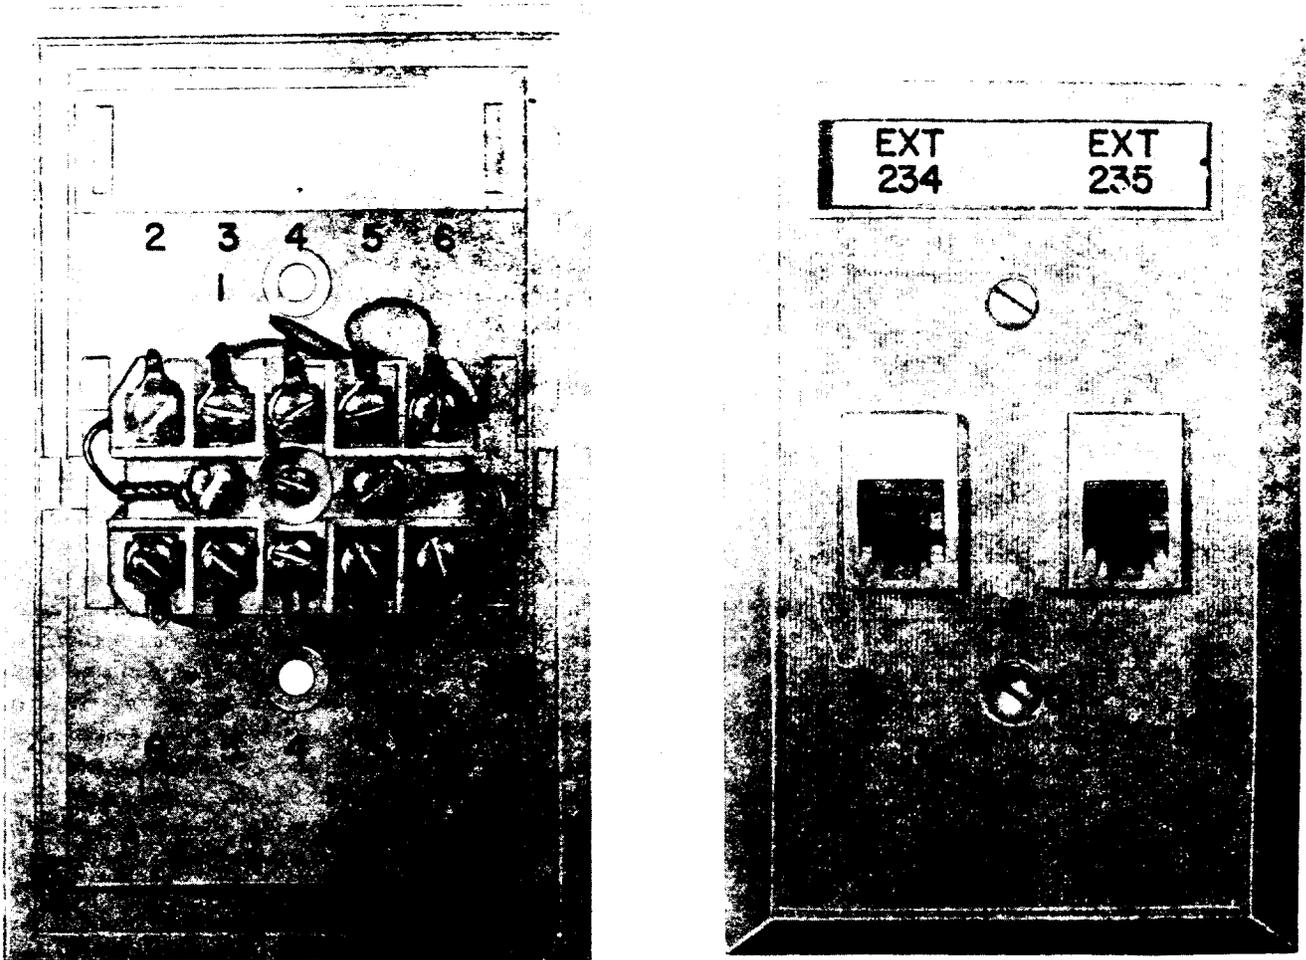

Fig. 6—625D6 Connecting Block (Without Mounting Hardware)
- Block, Connecting, 625D6 (Fig. 6, 7)
#### E. 625D6 Connecting Block (Fig. 6 and 7)
2.07 The 625D6 connecting block (Fig. 6 and 7) consists of two 645A6E jacks molded into a plastic faceplate, terminal block, and mounting bracket. Twelve screws are provided on the rear of the block for connections. It is intended for flush mounting in areas where two separate lines enter through a single outlet and terminate in separate jacks. Intended for use where six conductors are needed in each jack. Each jack provides for terminating a modular mounting cord. It is available in ivory (-50) and brown (-54).
**3.06 625D6 Connecting Block:** Mount the 842615544 bracket (Fig. 6) on a standard electrical outlet box using hardware furnished with bracket. Feed wiring through bracket opening and terminate on terminal strip located on back side of block (Fig. 7). Each jack has six-conductors; the bottom row of the terminal strip is for the left jack and the top row for the right jack. Attach the faceplate to the bracket using screws provided. Figure 7 is a schematic of 625D6 connecting block jacks. Intended for use where six conductors are needed in the jack.